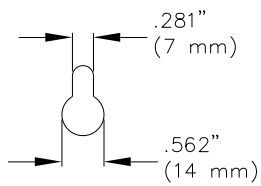

Figure 4.1
The mounting flanges each have two (2) keyhole slots. These are designed to conveniently engage a ¼" (6mm) diameter bolt. The dimensions and pattern of mounting flange keyhole slots is shown in Figures 4.1 & 4.2